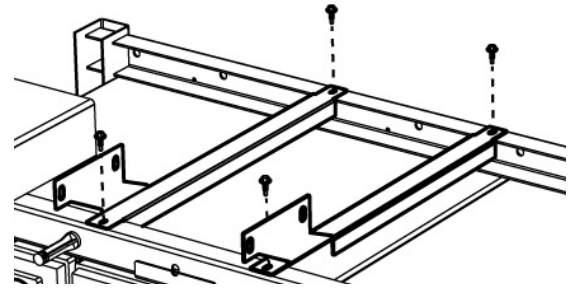

Figure 11. Secure brackets
Step 5. Align the DCX mounting brackets with the marked locations from Step 3 and secure into place by tightening the included self-tapping screws (EnerSys/C&D/GNB battery kits, Figure 11) or by tightening the included 1/4 in. hardware into the threaded inserts of the mounting brackets (East Penn Manufacturing kits).